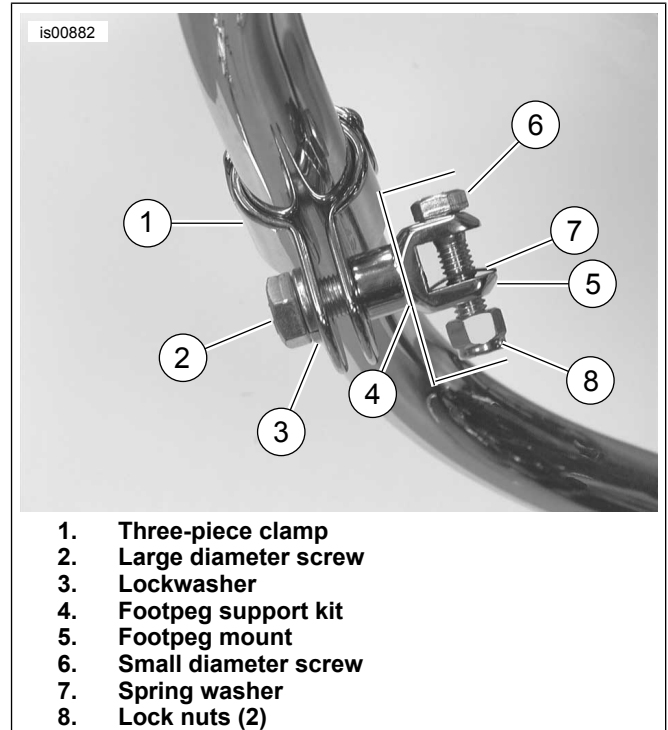

Figure 1. Footpeg Mounting Kit Installation (Footpeg Not Shown)
1. Remove the four small buttonhead screws that hold the 3-piece clamp (1) together. Place the clamp around the engine guard, positioning the clamp on the straight, upright section of the guard. Re-install the buttonhead screws and torque to 1 N·m (9 in-lbs).
2. See Figure 1. Pull the 3-piece clamp tabs together with a clamp, or clamping pliers, and install the large diameter screw (2), lockwasher (3), and footpeg mount (5) as shown. Hand-tighten the screw at this time. Repeat for the opposite footpeg mount.